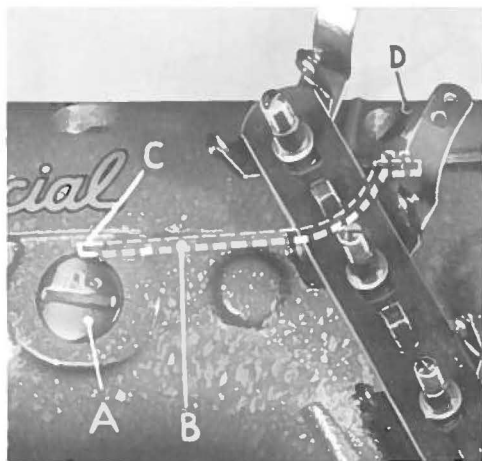
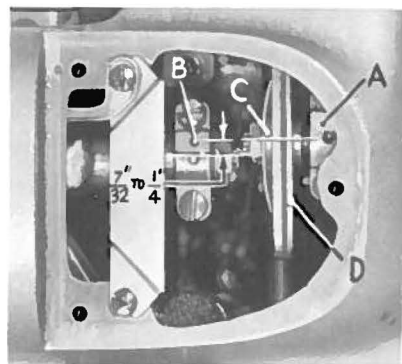

Fig. 1
Fig. 2
Observe location of needle lever stud (A, Fig. 1). The head of the needle lever stud is marked with an arrow and the word "UP". These studs are set correctly when arrow points vertically up. Also check the position of the needle lever bearing oiler (B) inside the arm casting, which lubricates the needle lever stud. Make sure it is tilted downwardly and that its delivery end (C) contacts the inside wall of the bed casting at the back, just above the notch of the needle lever shaft stop collar.
Before making any adjustment, remove top crank chamber cover (D, Fig. 1) and check to see that both ends of spacing washer (C, Fig. 2) are seated in the slot of rocker shaft lever (D). If the spacing washer is seated properly, this will locate the center line of the upper needle feed connecting rod ball joint (A, Fig. 2) $7/32$ to $1/4$ inch in back of the center line of the needle lever connecting rod assembly (B).
NOTE: When spacing washer (C, Fig. 2) is properly seated, this will prevent the upper needle feed connecting rod ball joint from moving and also set it properly.